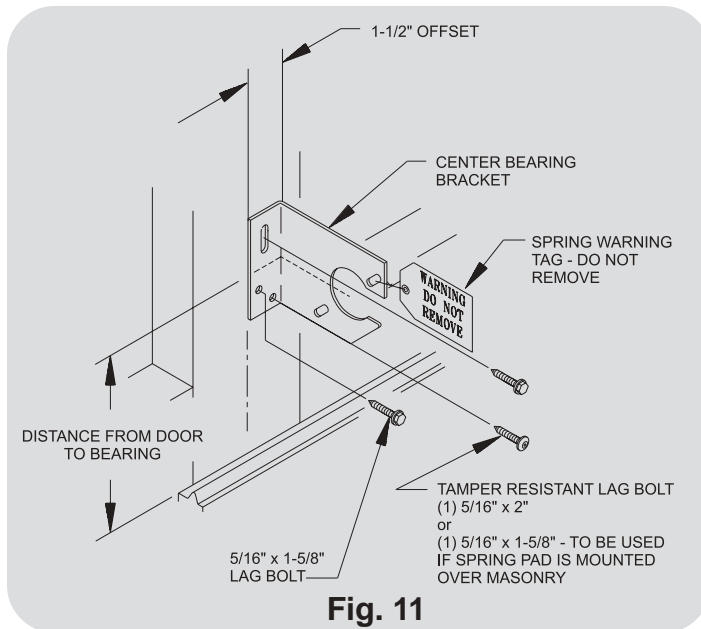

Fig. 11
Locate the center of the door and mark a vertical pencil line on the spring mounting pad. Then measure the distance from the top of the door to the center of the bearing on the end bearing fixture. Mark a horizontal line on the spring mounting pad the measured distance up from the top of the door. Offset the center bearing bracket 1-1/2" off center on the spring mounting pad and center the bearing hole in the bracket over the horizontal line so that the torsion shaft will lay level through the brackets when installed. Attach the bracket to the spring pad using (2) 5/16" x 1-5/8" lag bolts and (1) tamper resistant lag screw as illustrated in **Fig. 11**.